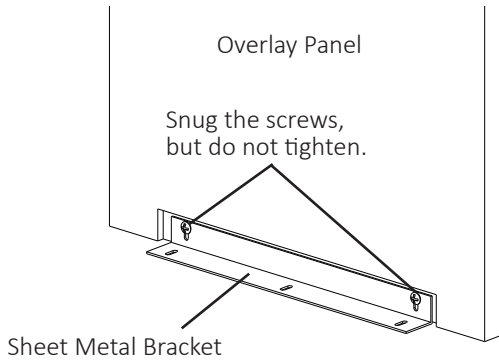

Fig. 13
- 1) Fasten the sheet metal bracket to the overlay panel using the two M4×8 truss head screws provided. Snug the screws, but do not tighten (See Fig. 13).